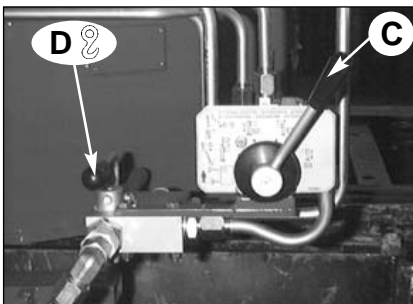

fig. 19
- Move the lever **D** controlling the crane/outriggers oil-diverter (☉ - **E/S**) to activate the crane controls. (Fig. 19)